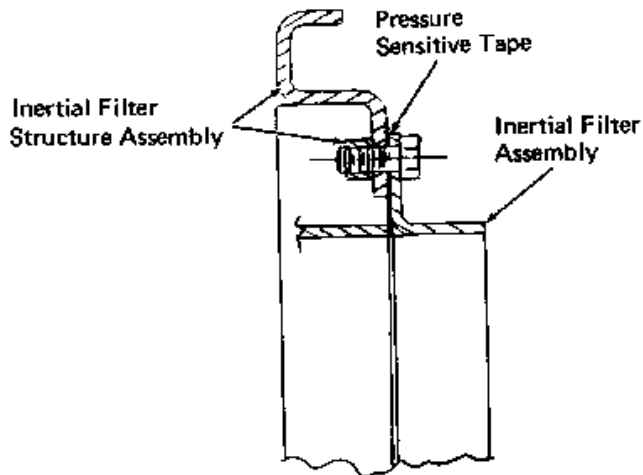

Fig. 35 - Cutaway Of Inertial Structure Assembly And Inertial Filter Assembly
The split portion of this seal conforms under pressure to surface contours ensuring weatherproof protection. Rubber cork composition pressure sensitive tape (available in different sizes), has various applications. It is used primarily to damp vibration and ensure snug fit between connected structural assemblies, such as the inertial filter structure assembly and the inertial filter assembly, (3) Fig. 31, cutaway, Fig. 35.